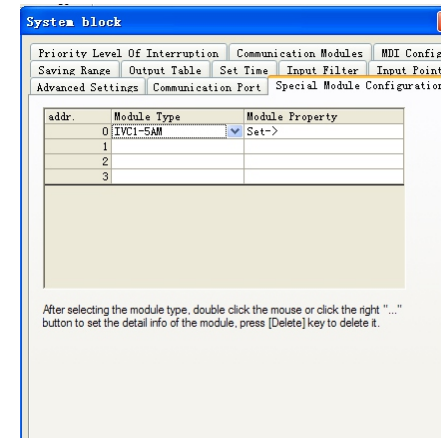
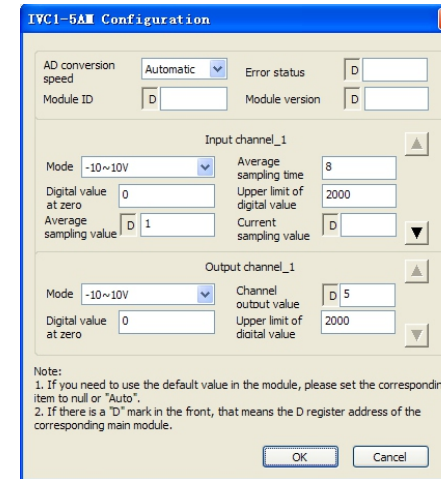

Figure 4-1 Setting special module type
Figure 4-2 Setting special module parameters
9. BFM#4094: module software version, displayed automatically as **Module Version** in **IVC1L-5AM Configuration** dialogue box of the host software, as shown in Figure 4-2.
IVC1-5AM is selected for both IVC1L-5AM and IVC1-5AM in the system block. Example: The IVC1L-5AM module address is 1 (for the addressing of extension modules, see IVC Series PLC User Manual). Use its channels 1, 2, 3 and 4 for voltage signal input (-10V~10V), set the average sampling times to 8, and use data registers D1, D2, D3 and D4 to receive the average value; set output channel to mode 0 to output 10V voltage signal, and use D5 element. Set extension module type as shown in Figure 4-1, and set actual parameters of extension module. Figure 4-2 shows the setting of input channel 1 and output channel 1. Set the other three input channels respectively in the same way.